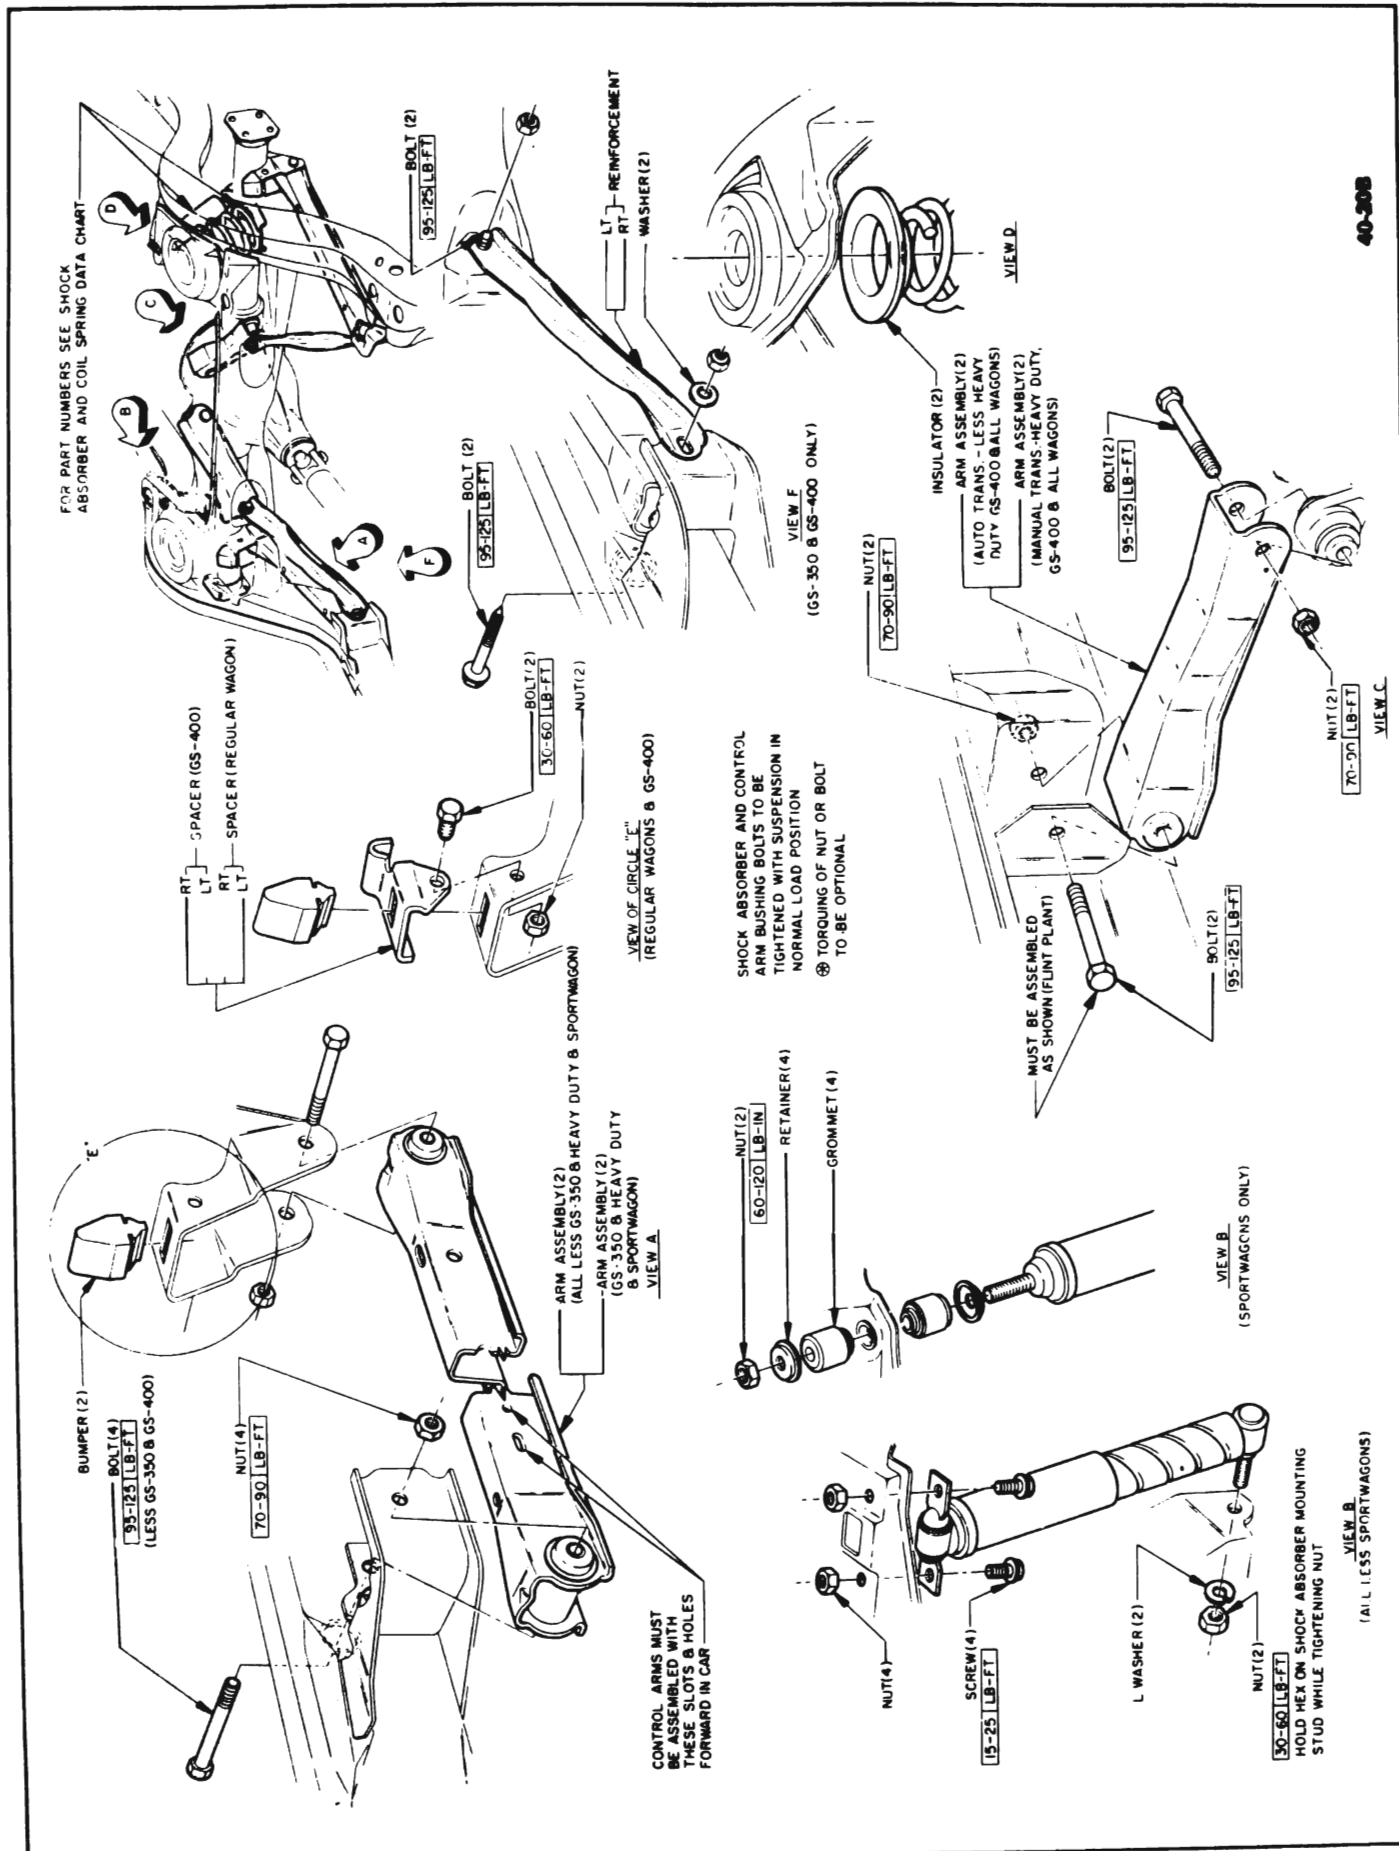

Figure 40-1 - 43-44000 Rear Suspension
The rear wheels are not independently sprung, being incorporated in the rear axle assembly. Alignment is maintained by the rigid rear axle housing. See Figures 40-1 and 2.
2. Disconnect shock at lower end. Disconnect shock at upper end and remove shock. See Figures 40-1, 2, and 4.